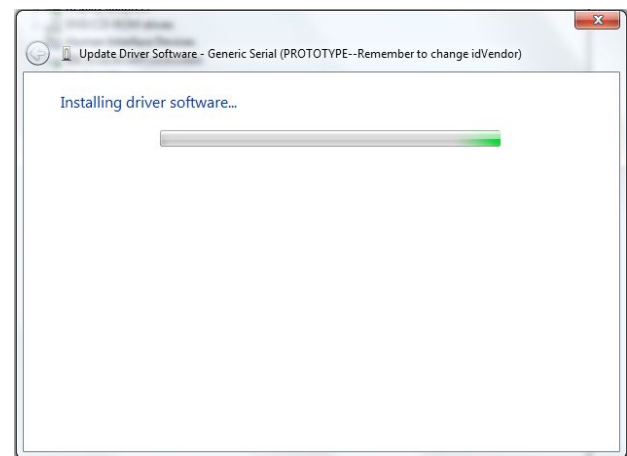

Figure 1-6
5. Click on the "Next", the system begins to install the driver, as shown in Figure 1-6: